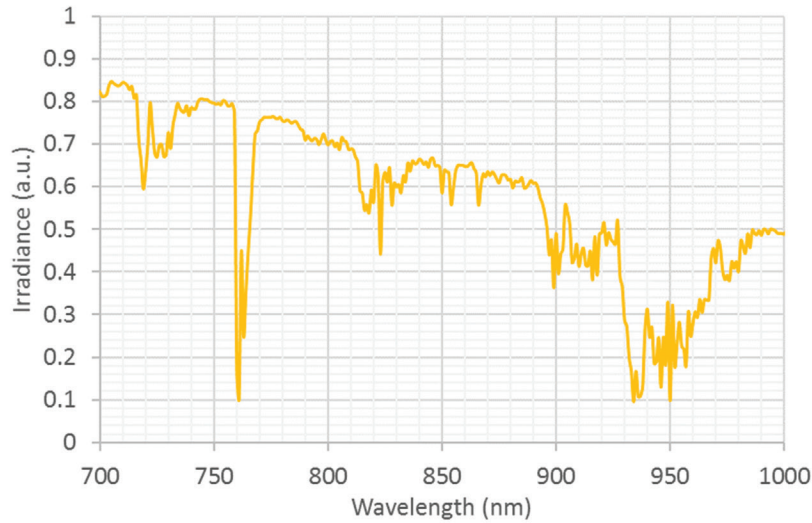

Figure 2. Typical solar spectral irradiance in NIR at ground level, showing a clear dip around 940nm.
- **Sun light (outdoor applications):** Solar irradiance at ground level can reach very high values; while its emission maximum is located in the visible range of the spectrum, it's still significant in near IR, however, due to atmospheric absorption, there is a dip in the 920nm to 960nm region, where the solar IR levels are less than half compared to 850nm (see Figure 2), thus, 940nm emitters might offer better system performance in this case